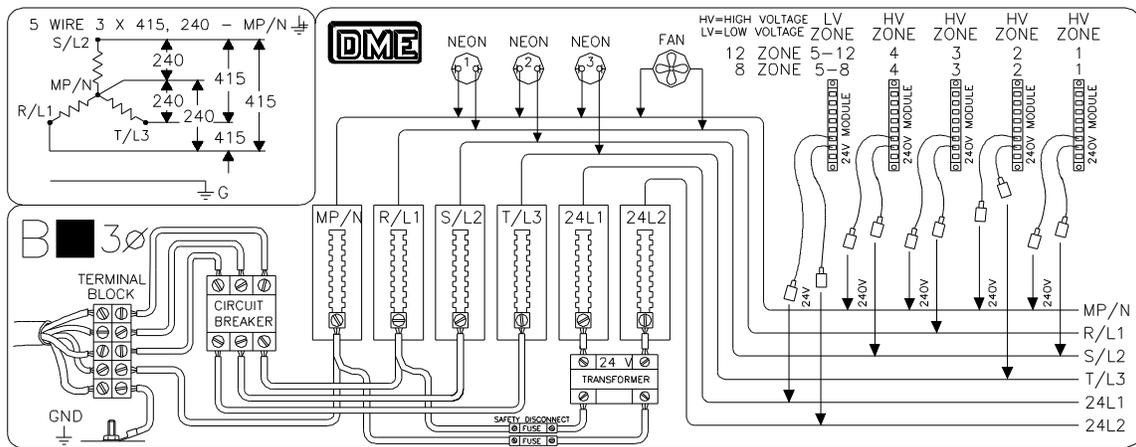

Figure 13 - Back Panel Wiring, Diagram B
- b) For 380-415 VAC, 3 phase, refer to figure 13.